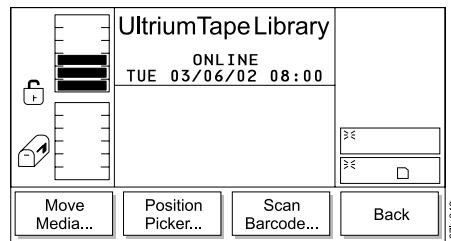

Figure 138. Move Submenu
2. Press the button below the **Move** softkey. The Move Submenu displays (see Figure 138).
6. To return to the Move Submenu (see Figure 138 on page 127), press the button below the **OK** softkey. To return to the Main Menu press the button below the **OK** softkey, then press the button below the **Back** softkey until the Main Menu displays.